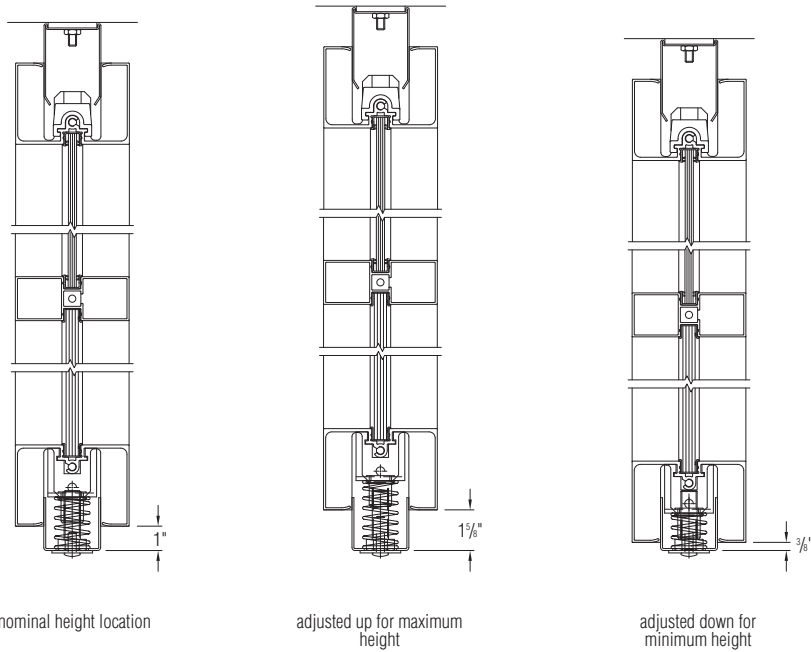

Figure 1
1. The recess base can adjust to a minimum of $\frac{3}{8}$ " to $1\frac{5}{8}$ " maximum. To adjust the panel, the installer needs to pry the floor channel up so the head of the bolt is exposed. Using a $\frac{3}{4}$ " open end box wrench or our pivot door tool, turn the head of the bolt to adjust either up or down (Figure 1).